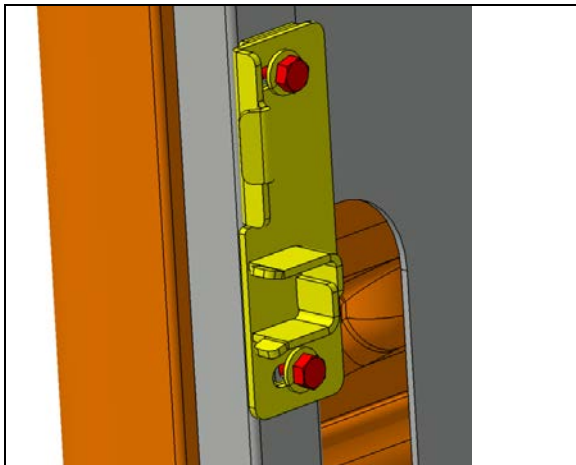

FIGURE 65
17. Perform the transversal adjustment by moving the strike plate using the slotted holes (FIGURE 65).